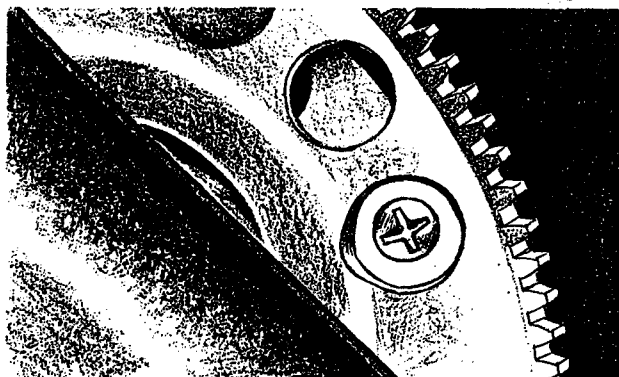

Figure 12—Installation Mounting Bracket Screws
(6) Turn the ring gear until the two inboard lightening holes line up with the holes in the pitch-change mechanism sleeve. Install the two R00-317 screws that hold the sleeve to the mounting bracket. Tighten bolts evenly so as not to cock or misalign gear mechanism. (See figure 12.)